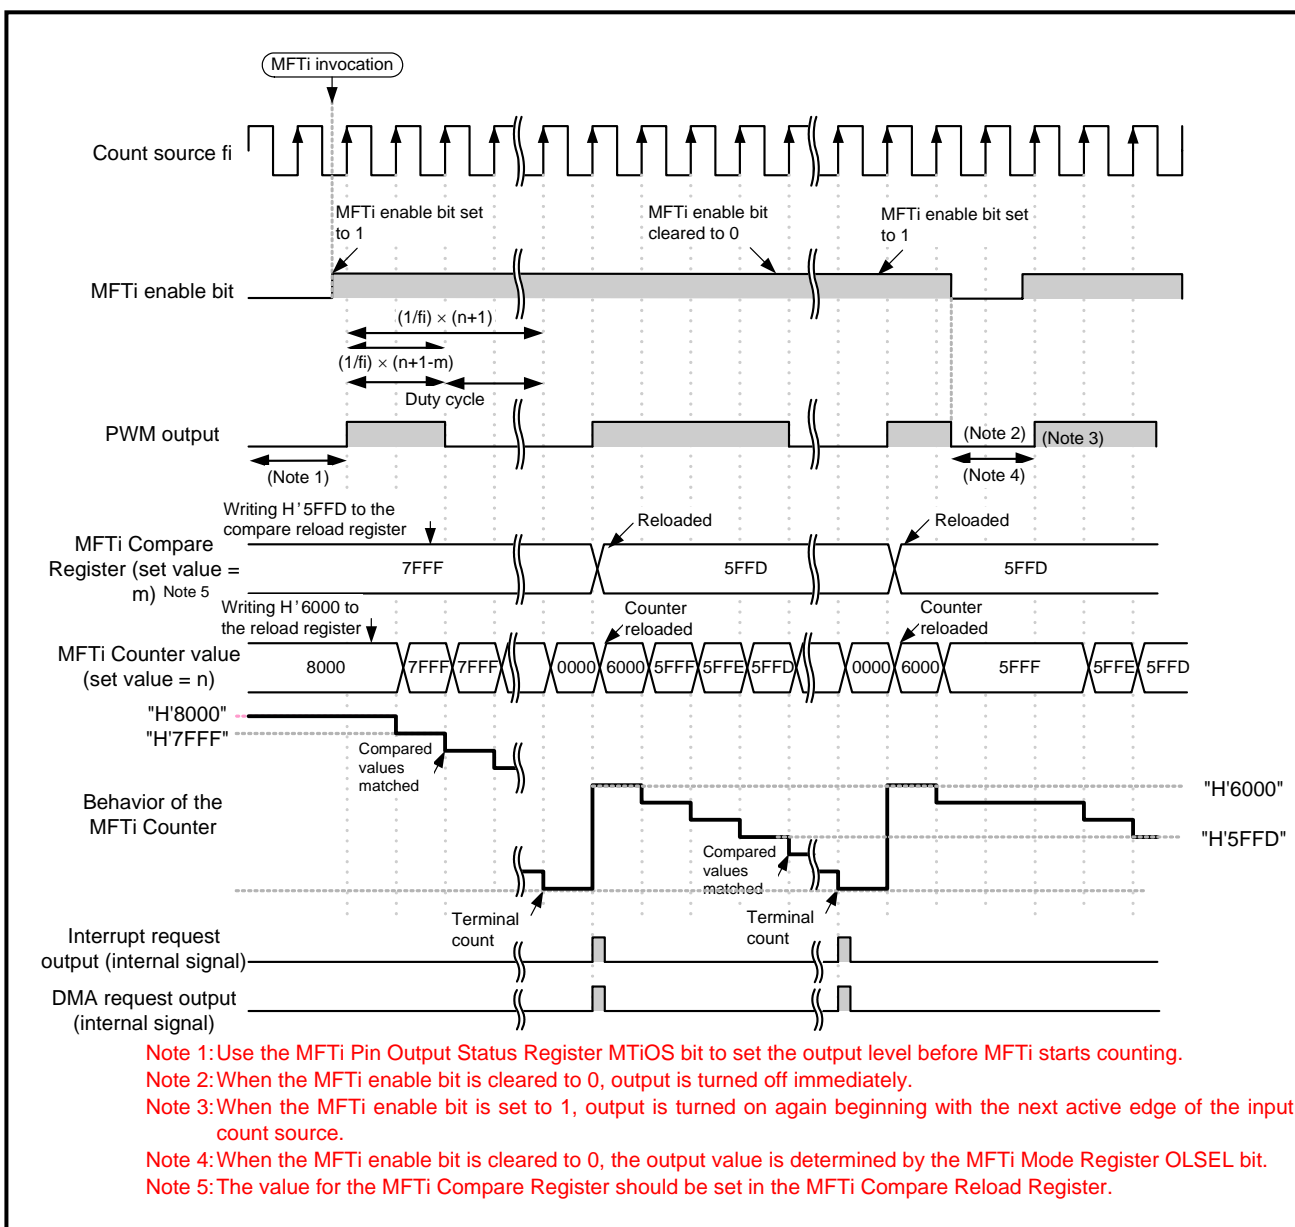

Figure 12.3.9 Example Operation Timing of MFTi when Acting as PWM Waveform Output Timer
(3) Operation of MFTi as the PWM waveform output timer
Figure 12.3.9 shows example operation timing of MFTi when acting as the PWM waveform output timer that was set in (2).